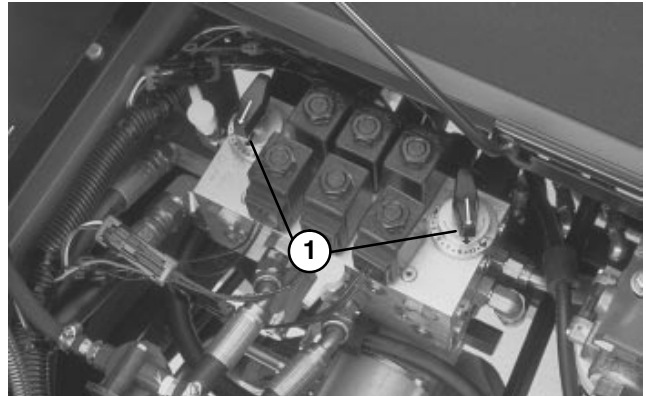

Figure 32
SETTING REEL SPEED (Fig. 32)
4. To set reel speed, rotate knobs (Fig. 32) until indicator arrows are in line with the number designating desired setting.